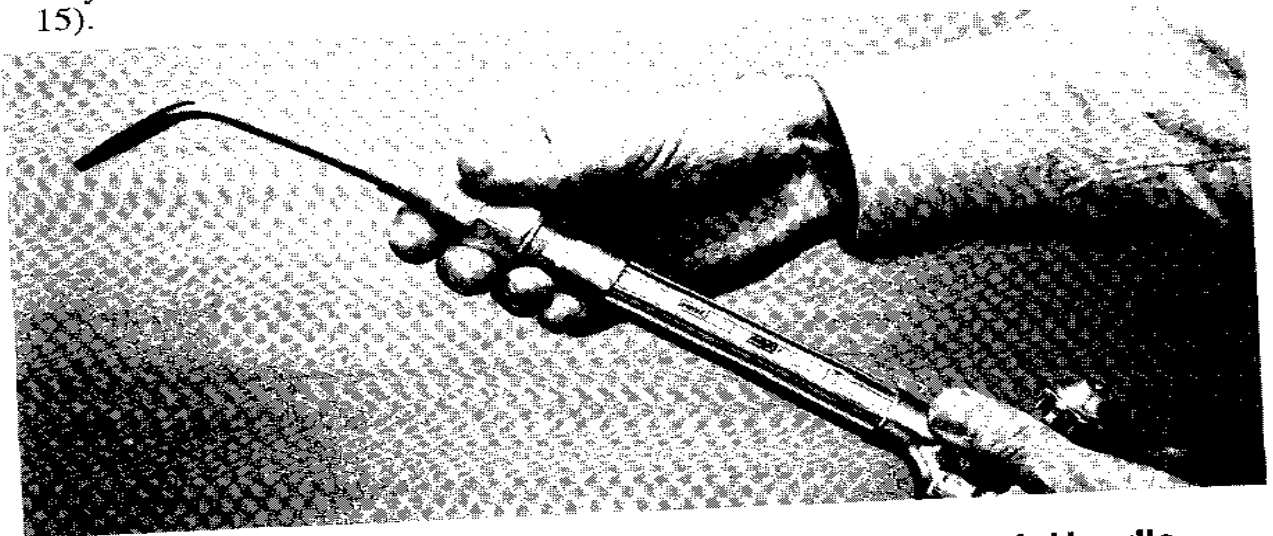

Figure 15, Connecting the Welding Nozzle to Torch Handle
2. Connect the welding nozzle to the torch handle. Tighten the coupling nut hand-tight only. Wrench tightening may damage o-rings and create a faulty seal (see Figure 15).